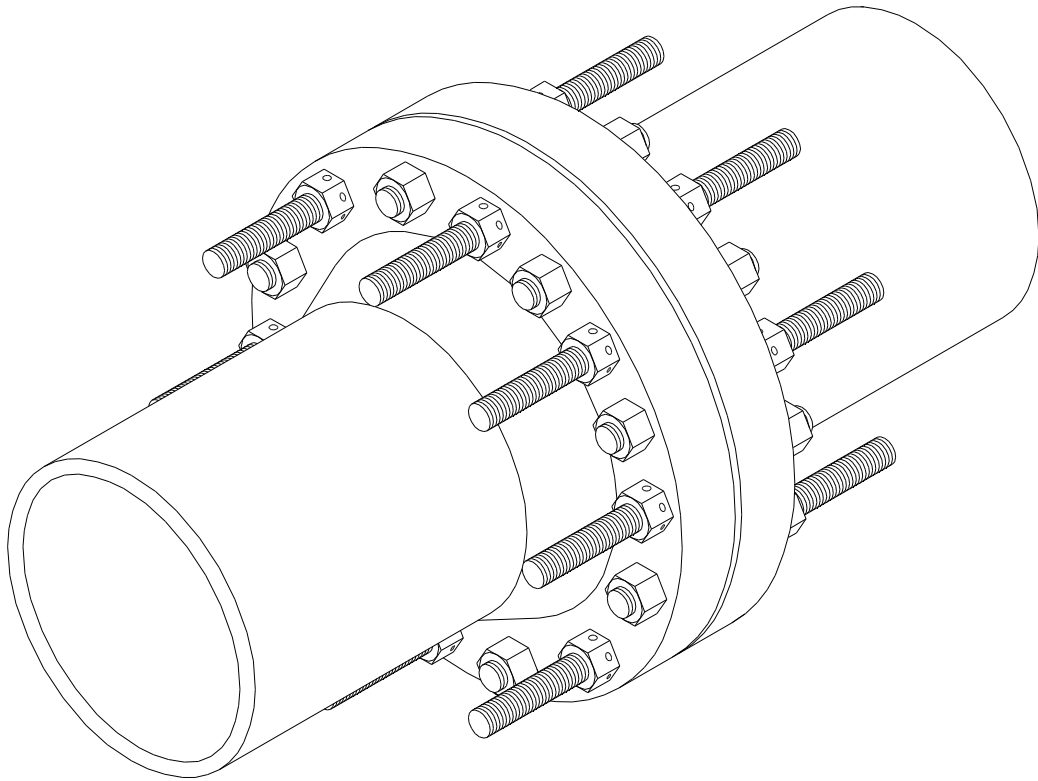

FIG. 4A : STUDBOLT INSTALLATION FOR 100% TENSIONER COVERAGE
a) STUDBOLT INSTALLATION FOR 100% TENSIONER COVERAGE (Fig 4A)
This is the preferred method of assembly as all studbolts are tensioned in one operation. In order to achieve this, the studbolts must be assembled with the thread protrusions staggered over each side of the flanged joint as illustrated in Fig 4A.